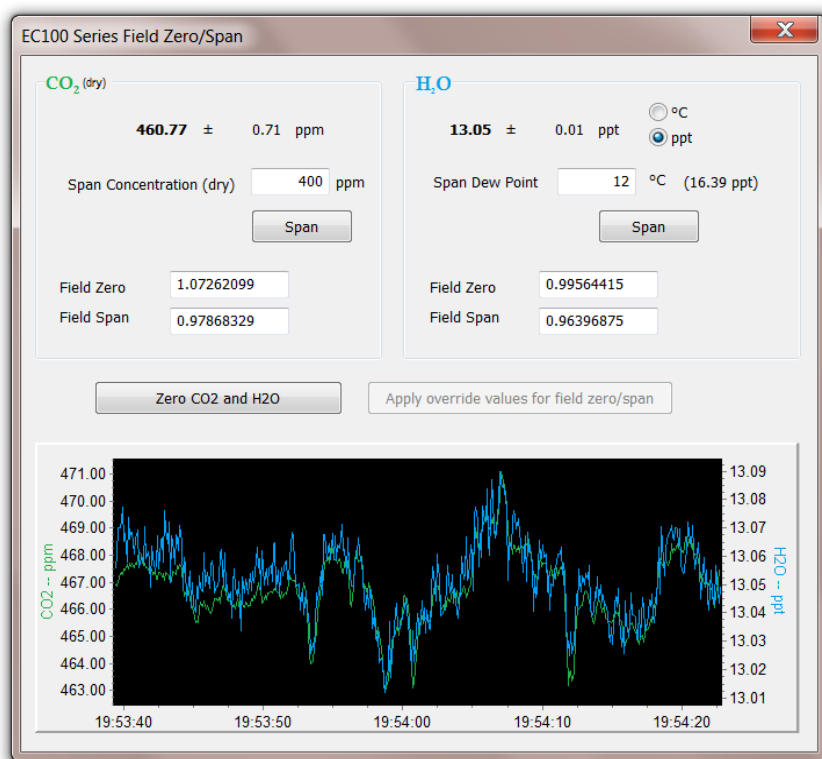

FIGURE 9-5. ECMon zero-and-span window
7. Launch ECMon, select the appropriate USB port, and click **Connect**. The main screen should now be reporting real-time CO₂ and H₂O concentrations. Click **Zero/Span**. A graph will appear in the lower half of the zero-and-span window showing measured CO₂ and H₂O concentrations (see FIGURE 9-5).